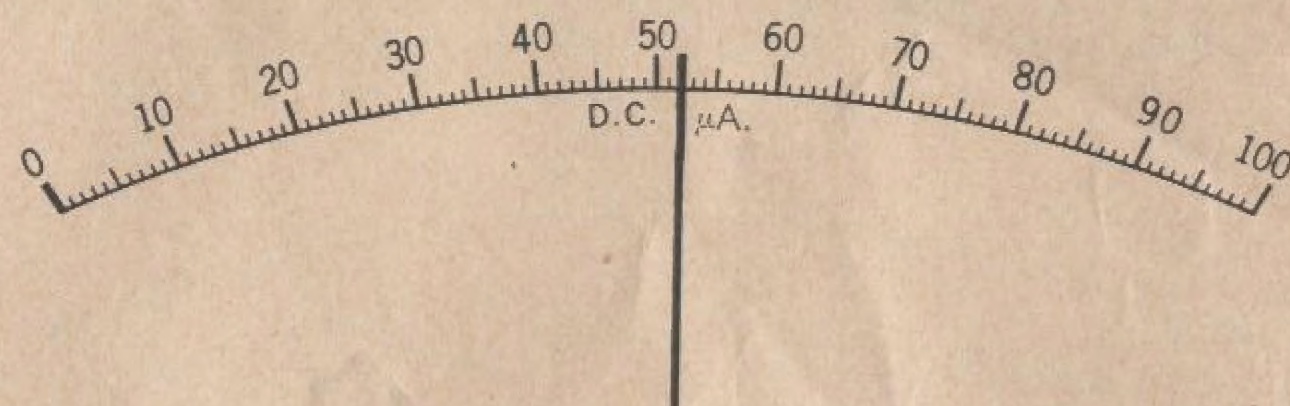

Figure 21—100  $\mu$ A. D.C. Scale
1. The 100 microampere range is calibrated in increments of 1 microampere. If for example the pointer was located as shown in Fig. 21, the meter would indicate that 52 microamperes of current is flowing in the circuit.